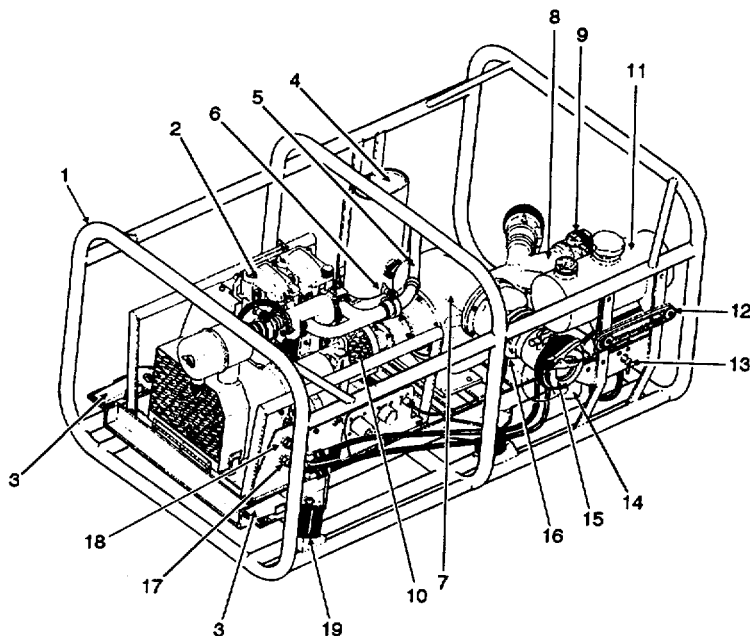

Figure 1-2. Pump-Engine Module
1.9.1 Pump-Engine Module. (Refer to figure 1-2.)